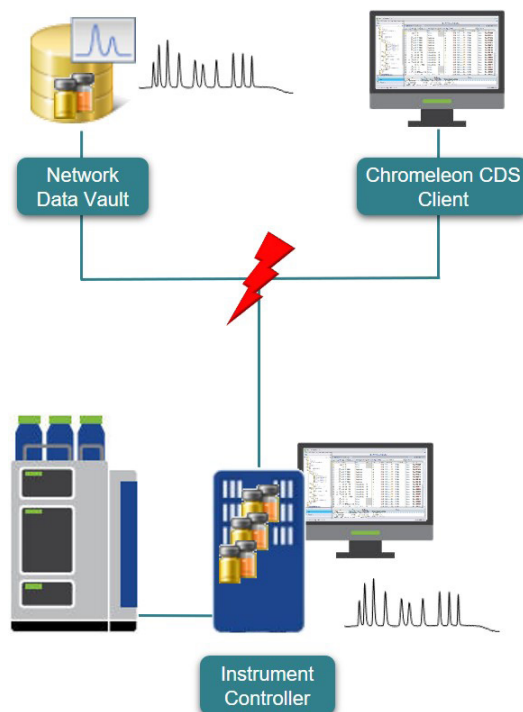

Figure 2. Network failure protection
- Chromeleon software's unique XVault™ technology ensures continuous operation and data security (Figure 2). During data acquisition, sequences are always run in the XVault, present on each local instrument controller, and the acquired data is synchronized centrally. In case of network failure, NFP mode is automatically enabled and data acquisition continues, with the data stored on the local computer. While in NFP mode, the data interrupted during acquisition can be accessed via the XVault for processing, and reporting, and new sequences can be started — all in accordance with compliance and data integrity guidelines. After network recovery, the interrupted data is automatically uploaded and synchronized to the central server. Additionally, any new sequences initiated while in NFP mode can be uploaded within the Chromeleon Client, ensuring data integrity and compliance.